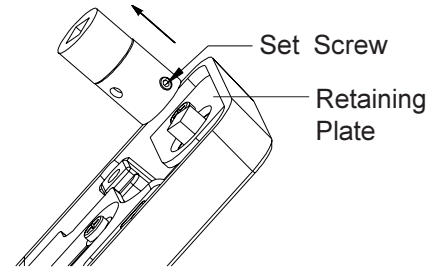

Fig. 3
-Remove the Lever Input Extension from position A by first loosening its set screw. (See **Fig. 3**) Remove, likewise, the short locking collar at position B and discard it. Remove screw and discard the retaining plate, screw and the loose parts under the retaining plate.